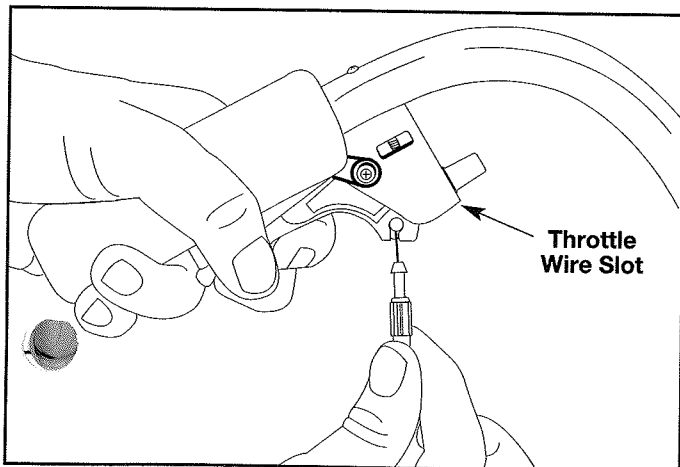

Fig. 10
3. With the throttle trigger depressed, place the barrel end of the throttle wire inside the hole of the trigger (Fig. 10).